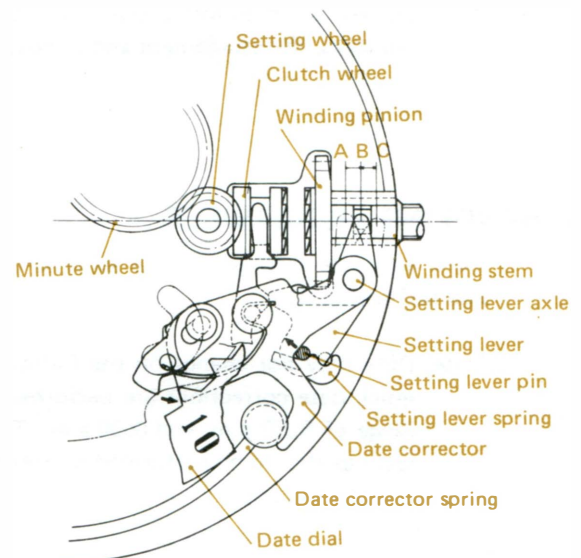
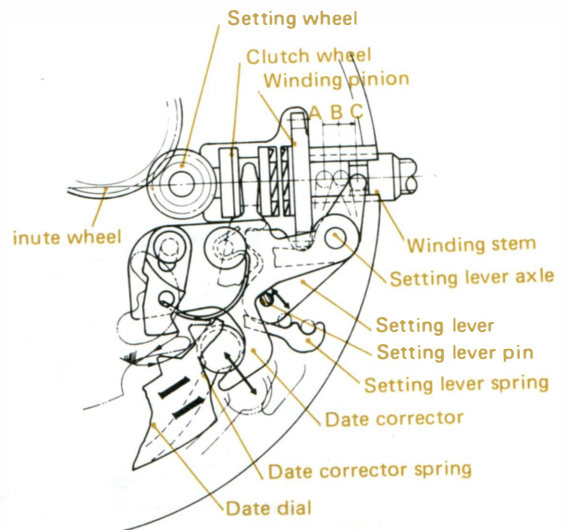

Fig. 2
Fig. 3
- The crown actuating position changes from A (Mainspring winding) to B (Time setting) and to C (B ↔ C is date setting). Fig. 2 shows time setting, whereas Fig. 3 shows date setting.